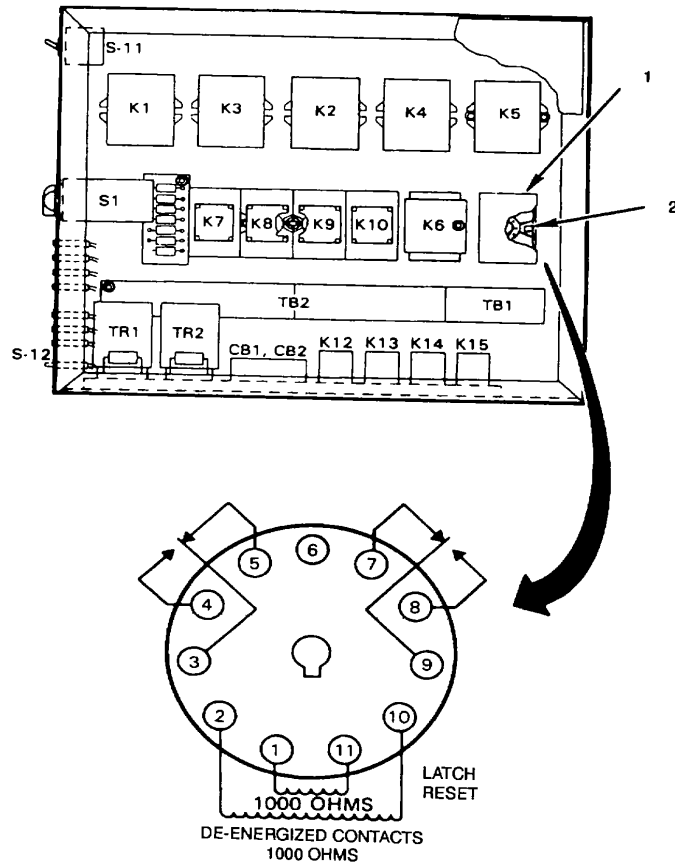

Figure 4-28. Latching Relay (K11)
- (1) Disconnect air conditioner input power at source, and
- (2) Remove control box assembly (paragraph 4 27).
- a Pull relay (1) from socket (2) (see fig. 4-28).